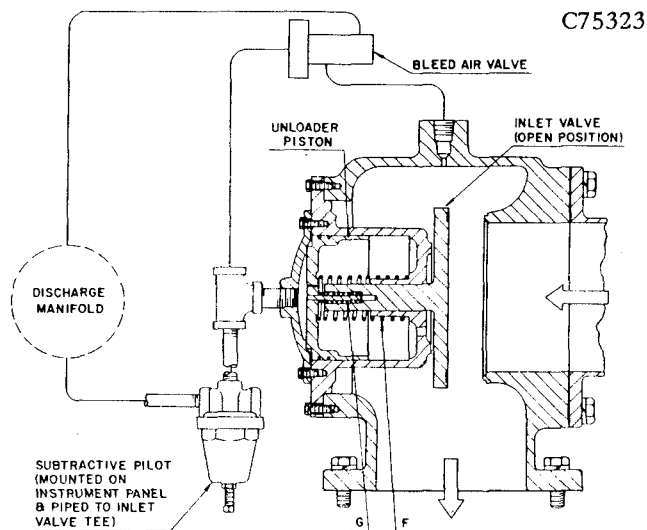
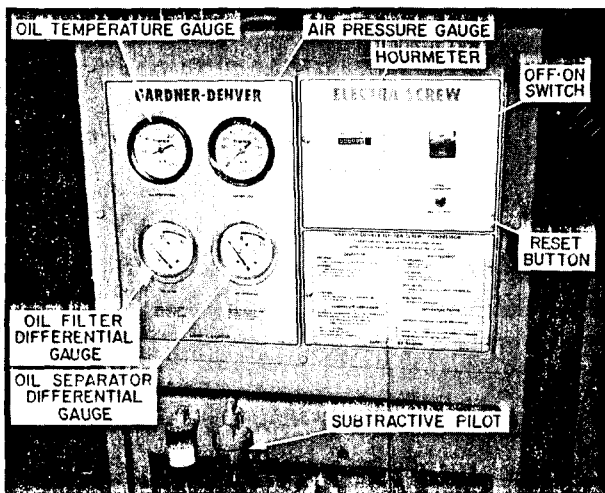

FIGURE 6-4. – INLET VALVE FOR CONSTANT SPEED CONTROL
FIGURE 7-4. -- INSTRUMENT PANEL CONSTANT SPEED CONTROL
**INSTRUMENTS AND GAUGES** (Figures 7-4 & 10-4) – Both control system instrument panels incorporate the following:
**CONSTANT SPEED CONTROL SYSTEM** (Figures 1-4, 2-4, 6-4 & 7-4) – The Constant Speed Control System is used where requirements for air are high for long periods, causing the unit to remain loaded most of the time. The control is a stepless pneumatic system which regulates the compressor inlet to match the air demand made on the compressor. Effective from 0 to 100% of the compressor capacity, the control opens the inlet valve as air is drawn from the service valve, maintains a constant valve opening as air demand levels off, or closes the valve when the demand ceases. The subtractive pilot and inlet valve are shown in Figure 6-4. The ON-OFF switch and instrument panel are shown in Figure 7-4.
**Inlet Valve** (Figure 6-4) – The inlet valve is a piston-actuated device which controls the compressor inlet and operates on air pressure from the subtractive pilot. The valve is closed when full pressure is on the system and changes degree of opening in direct response to system pressure changes.